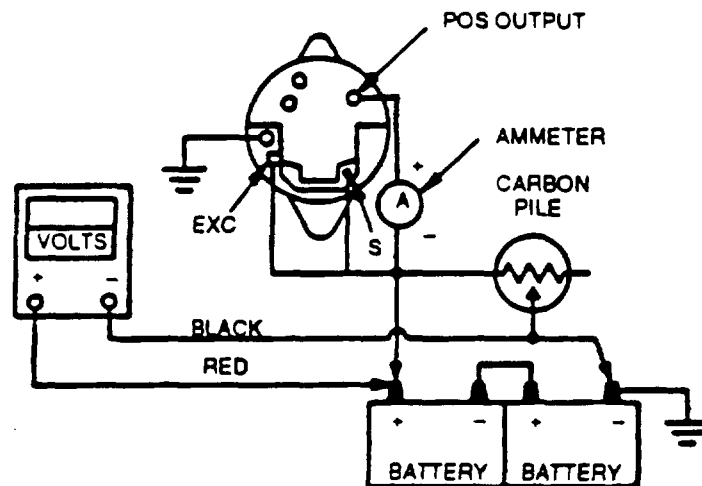

FIGURE 3-13. Battery Charging Alternator Test Circuit
- (2) Set up test circuit as shown in FIGURE 3-13.